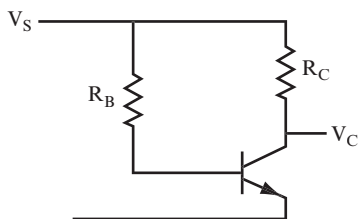

FIGURE 12.4
- 26.** Using the circuit shown in Figure 12.4, find the value of R_B required to turn the transistor ON if $V_s = 14$ volts, $R_C = 10 \text{ k}\Omega$, and $\beta = 50$. _____
27. Again, using the circuit shown in Figure 12.4, find the value of R_B required to turn the transistor ON if $V_S = 5$ volts, $R_C = 4.7$ k Ω , and $\beta = 100$. _____